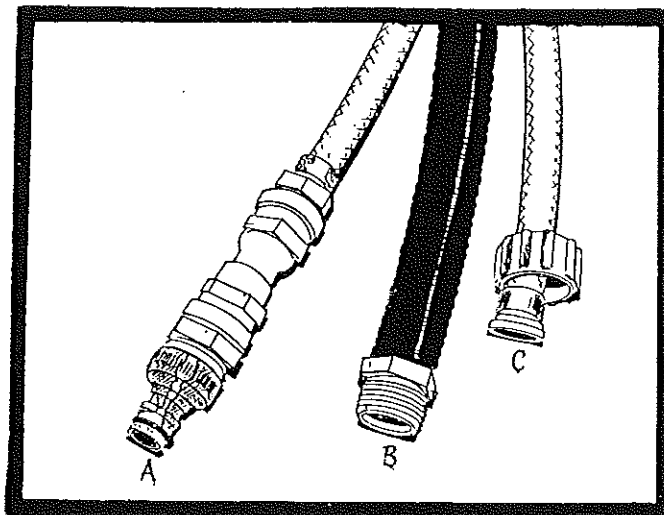

FIGURE 20
32. Refer to Figure 20 for utility line identification: